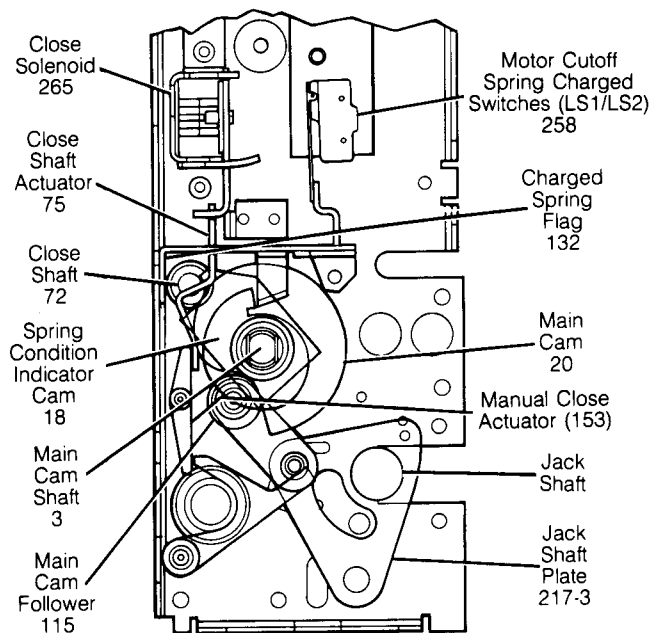

Figure 17b: Closing Mode
At the beginning of the charging cycle, ratchet pin (16) is at the 6 o'clock position. The ratchet pin is connected to the ratchet wheel. Upon being advanced by ratchet action to the 12 o'clock position, this pin engages the drive arms (8) which are keyed to the main cam shaft. Consequently, counterclockwise rotation of the ratchet wheel causes the ratchet pin to drive the main cam shaft counterclockwise. When the ratchet pin reaches the 6 o'clock position, the closing springs are fully charged. Driving pawl (24-1) is disengaged, the spring condition indicator cam (18) has rotated allowing the spring charged flag (132) to drop into the lower (charged) position, which also operates the motor cutoff switch (LS1) and spring charged switch (LS2) (258) (see **Figures 17b and 27**). The closing springs are restrained fully charged by close hatchet (22) against close shaft (72).
Closing Mode (Figure 17b) - Energizing the close solenoid (265) pulls the solenoid armature against the closing shaft actuator (75) and causes the close shaft (72) to rotate approximately 15°. If the closing springs are charged, the close